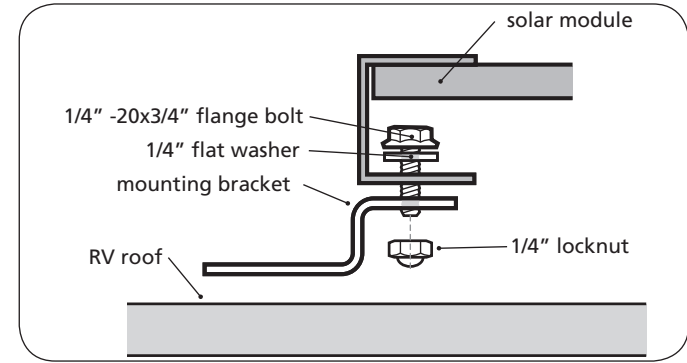

Fig. 7. Attaching solar panel to 5-hole mounting bracket
3. Fix the mounting brackets to the frame of the previously positioned solar panel using the slotted opening and the 1/4\"-20 x 3/4\" Flange Bolt, Nylon Locknut and flat washer (Fig. 7). Using a 7/16\" wrench, tighten the nuts to secure the mounting brackets to the PV panel. Recommended tightening torque is 15 lbs.